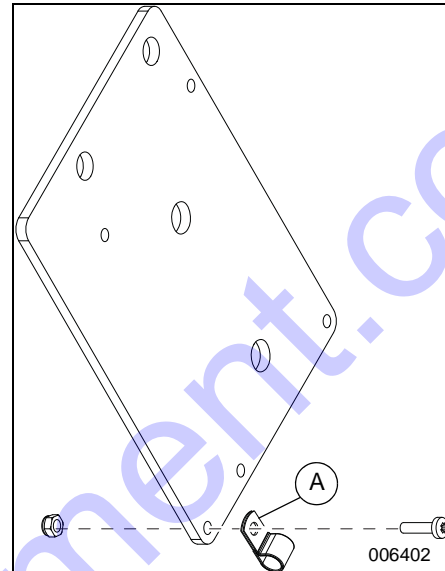

Figure 17. Tubing Clamp Removal
5. See Figure 17. Remove and retain tubing clamp (A).